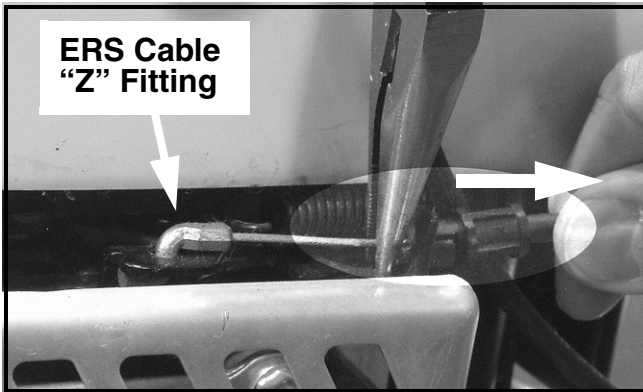

FIGURE 6
14. Using a pair of long nose pliers, gently compress the two locking tabs on the ERS cable's housing end and push back to slide the cable's end out of the engine's mounting bracket. See Figure 6.